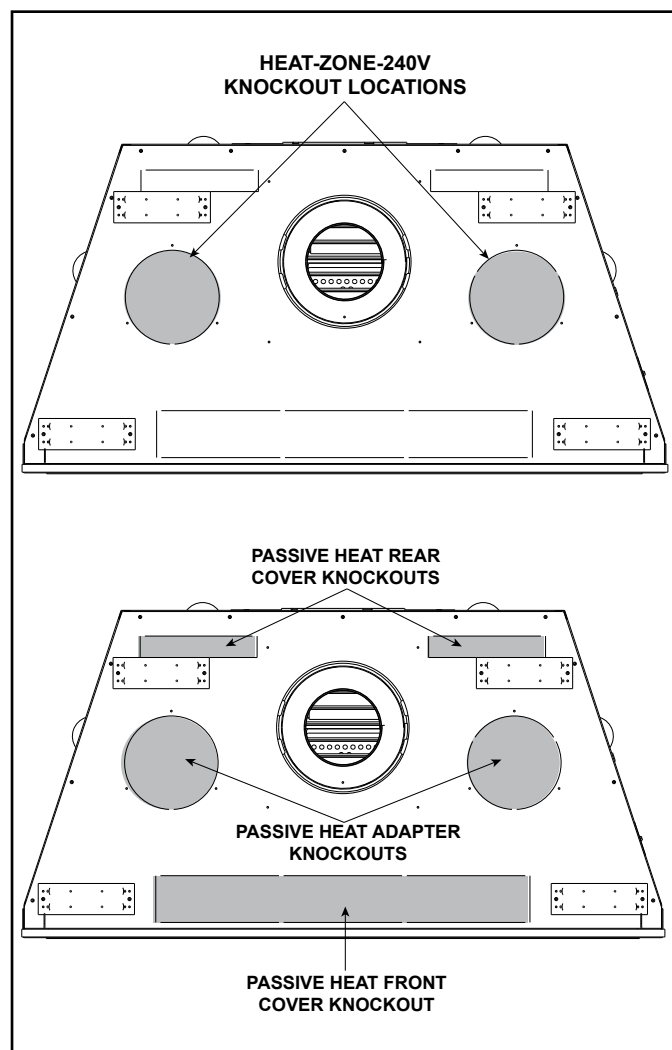

Figure 6.12 Heat Management Knockout Locations
- Locate the two heat management knockouts on the top of the appliance. Remove the knockout from the fireplace and discard it. See Figure 6.12. Either one or two heat management systems may be installed. Remove the knockout(s) from the appliance with a tin snips.
Passive Heat may be used with HEAT-ZONE-240V. The dedicated knockouts, as shown in Figure 6.12, must be used only as indicated.